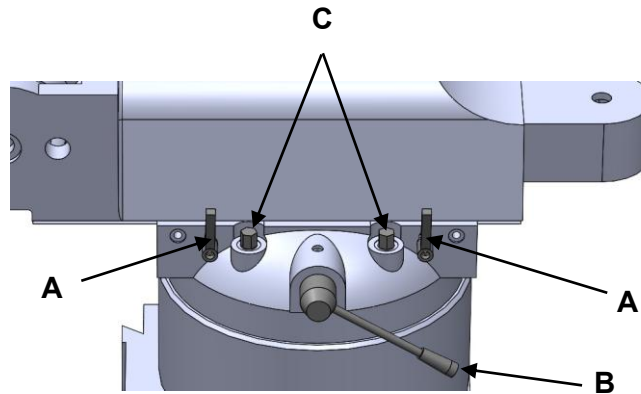

Figure 15
1. Loosen the two bolts (A, Figure 15) that lock the ram to its ways.
2. Turn the lever (B, Figure 15) to move the ram on its ways.
3. When the desired position is reached, lock the bolts (A, Figure 15) securely.
4. Loosen four turret lock bolts (C, Figure 15) that clamp the ram to the top of the base. 1/2 turn should be sufficient to allow the turret to move.
6. Tighten the four turret lock bolts (C, Figure 15).